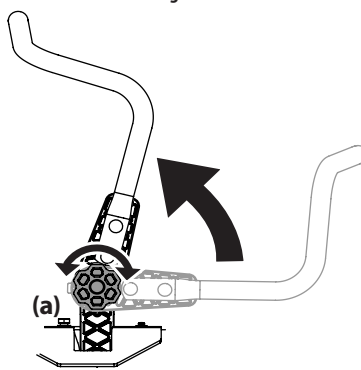

Figure 13
1. Rotate the knob (a) counter-clockwise to loosen the knob (a). See Figure 13.
3. Rotate the knob clockwise to secure the lapbar drive control lever into position. See Figure 13.